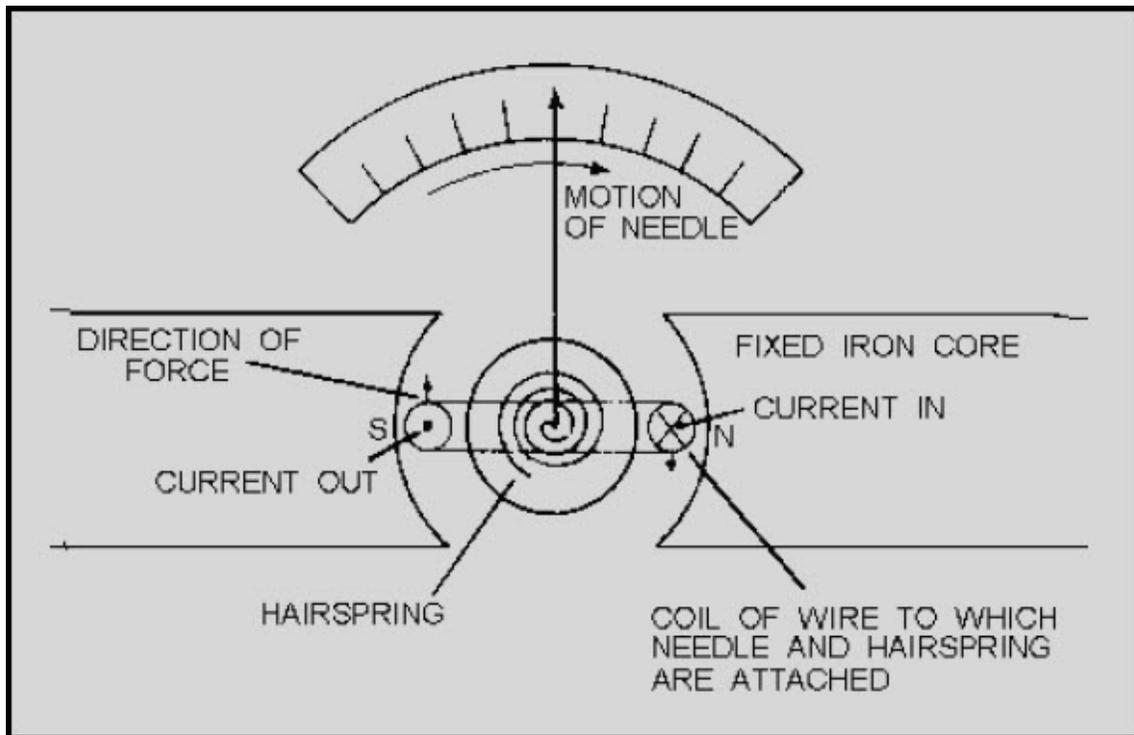

Figure 3-2 D'Arsonval meter movement
Most dc instruments use meters based on some form of the D'Arsonval meter movement. In D'Arsonval-type meters, the length of the conductor and the strength of the field between the poles of the magnet are fixed. Therefore, any change in current causes a proportional change in the force acting on the coil. Figure 3-2 is a simplified diagram showing the principle of the D'Arsonval movement.
**POLE CONSTRUCTION** - Note that the pole pieces in figures 3-2 and 3-3 have curved faces. You can see the advantage of this type of construction if you remember that lines of force enter and leave a magnetic field in the air gap at right angles to the coil, regardless of the angular position of the coil. Because of this type of construction, a more linear scale is possible than if the pole faces were flat.